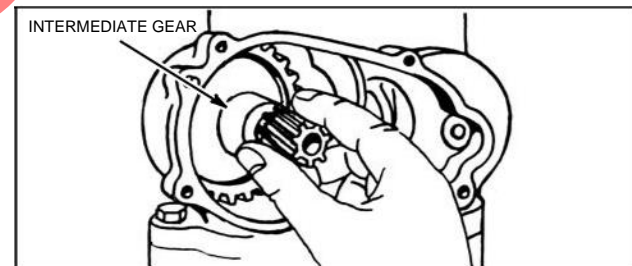

Fig. 119
2. Place intermediate gear in recess of crankcase, Fig. 119.
4. Assemble gasket, Part #68537 (NLA) (.015" thick) to gear case dowel pins, Fig. 119.